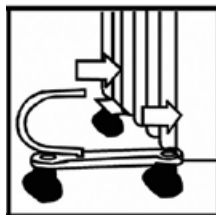

Fig. 2
3. Mount the set onto the bottom part of the unit (Figs. 2, 3).